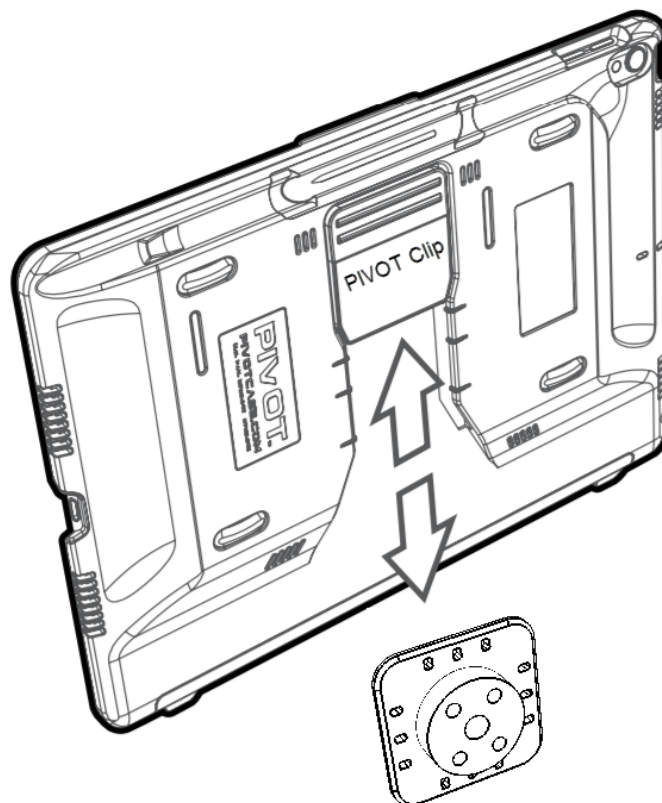

Figure 5: Pivot Case Installation / Removal
3.3 Pivot Case (see Figure 5) (Task 46-20-00-105)